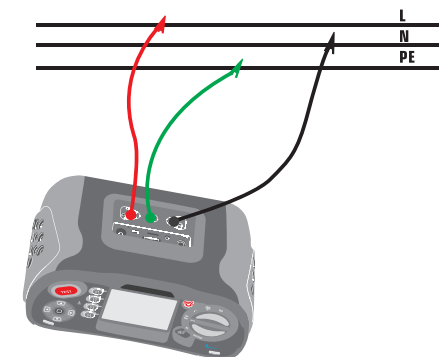

Figure 12 N Line Impedance-Test leads connection
- 3-Connect the test leads as shown in Figure 12